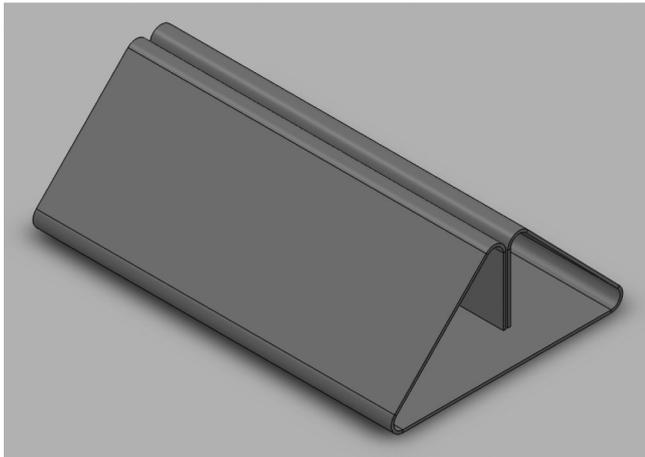

Fig. 8
- 7 **Fig. 8** shows a CAD drawing of a menu holder for a cafe. The holder is to be made from 1.5 mm acrylic sheet.